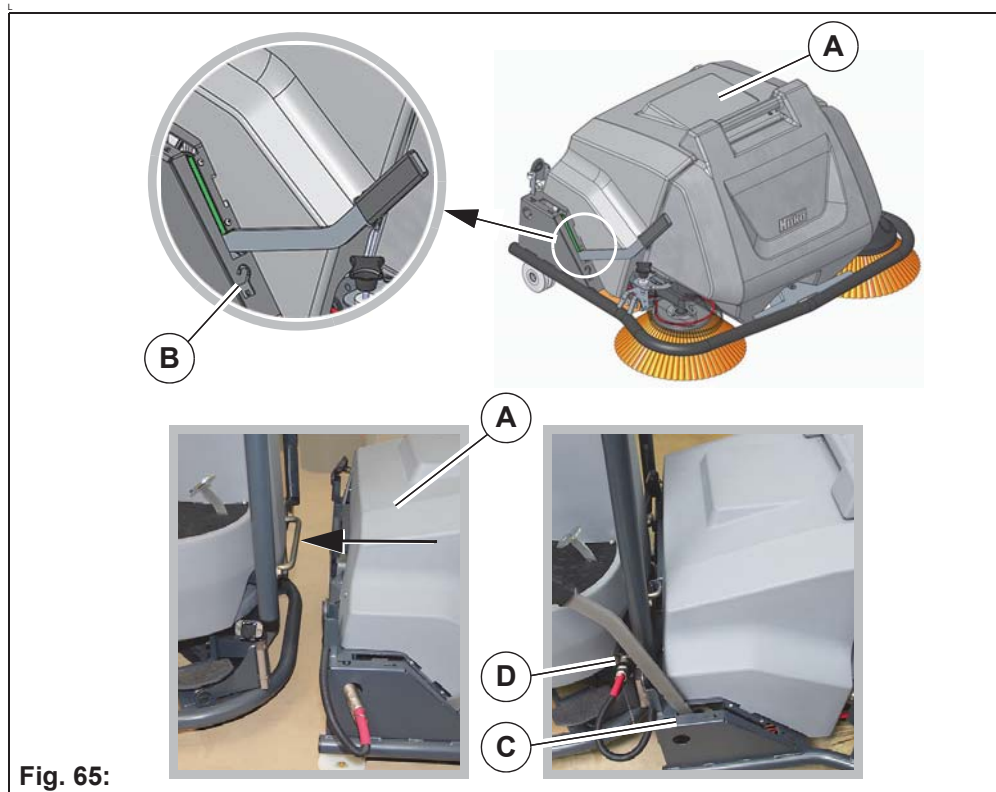

Fig. 65:
1. Slide the pre-sweep suction unit **Fig. 65-A** as far as the swivel bracket on the machine in a central position. The lever is in the change position **Fig. 65-B**.
2. Move lever to position *P* **Fig. 65-C**.
3. Insert the plug into the socket at the front right of the machine and secure with the knurled nut **Fig. 65-D**.
If the pre-sweep suction unit is attached to the machine and the lever is in the sweeping position (Pos. 1) **Fig. 65-A**, the frame must be aligned parallel to the floor.
2. Unscrew the swivel bracket **Fig. 65-B** from the machine. The tilt angle of the frame is determined by adding or removing the washers **Fig. 65-C**. The following applies: the more the washers are used, the more the frame will tilt downwards at the front.